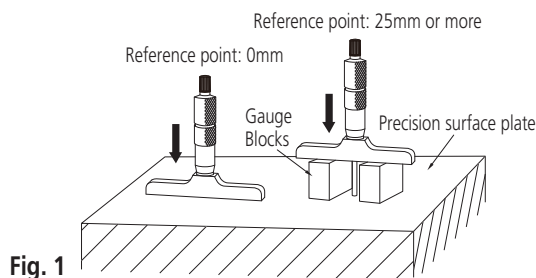

Fig. 1
4. Slowly contact the measuring surfaces while pressing the reference surface against a flatness-assured surface such as precision surface plate. Then rotate the ratchet stop (1.5 to 2 turns) to apply a measuring force 3 to 5 times to check the reference point. If the reference point is over 25mm, use gauge blocks to check the setting. (**Fig. 1**)